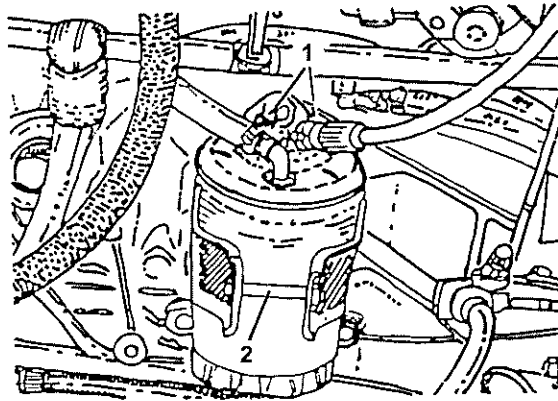

Fig 38 Fuel filter
- 102.2 Open the hose band clips (see Fig 38 (1)) and pull off the fuel lines from the fuel filter.